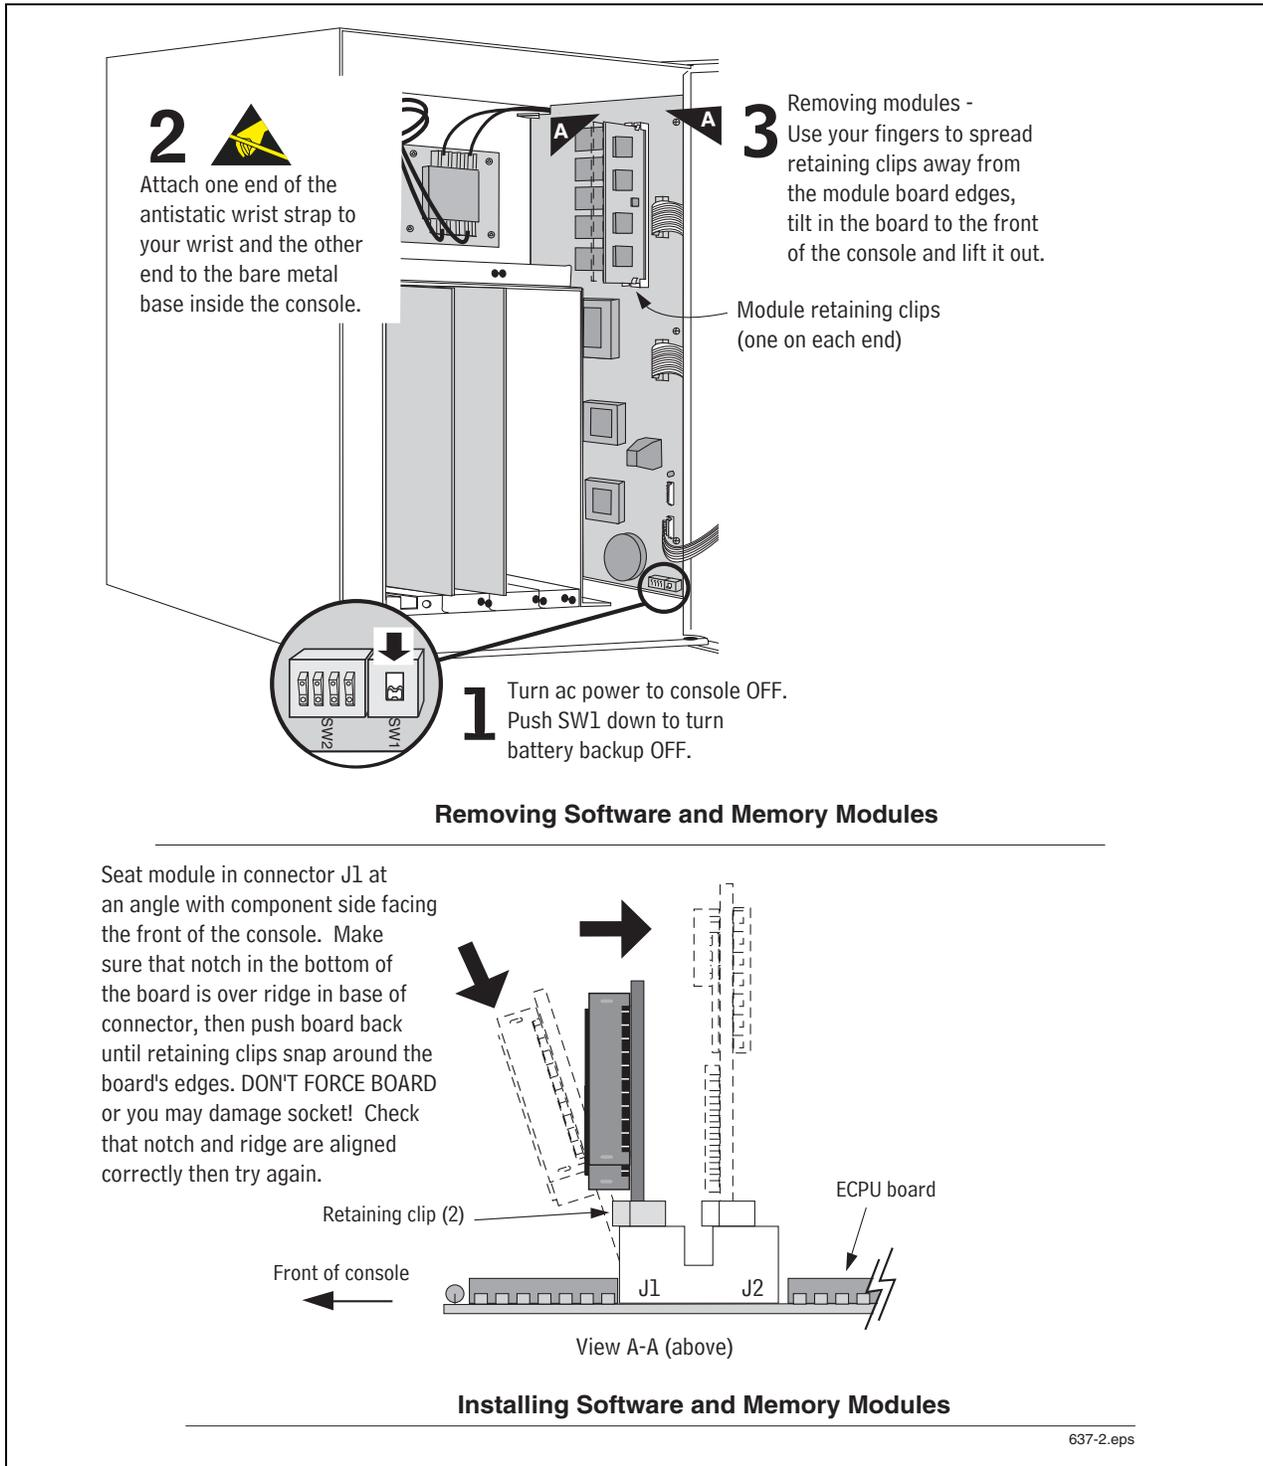

Figure 9. Removing and Installing a Software or Memory Module
6. Remove the software module from the old ECPU board and install it on the new board (ref Figure 9 on page 15). If present, also remove the memory module from the old ECPU board and install it on the new board.
4. Follow the instructions in Figure 9 to install or replace these modules.